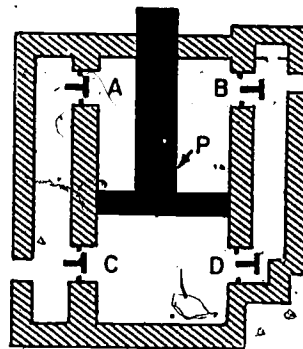

Figure 4B.-Double-acting pump.
- 4-53. In the pump shown in figure 4B, fluid is discharged on the downstroke through
- 4-54. How do the valves move when piston P in the pump shown in figure 4B moves upward?